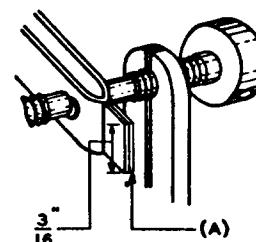

Fig. 102 - Flexible Contact Spring Alignment
- (a) **Flexible Contact Springs Riveted to Armature** — Fig. 102 (A): Springs tips shall be approximately flat, shall bear upon each other at the top and bottom edges and shall make at least a line contact for at least 25% of the $\frac{3}{16}$ " width.